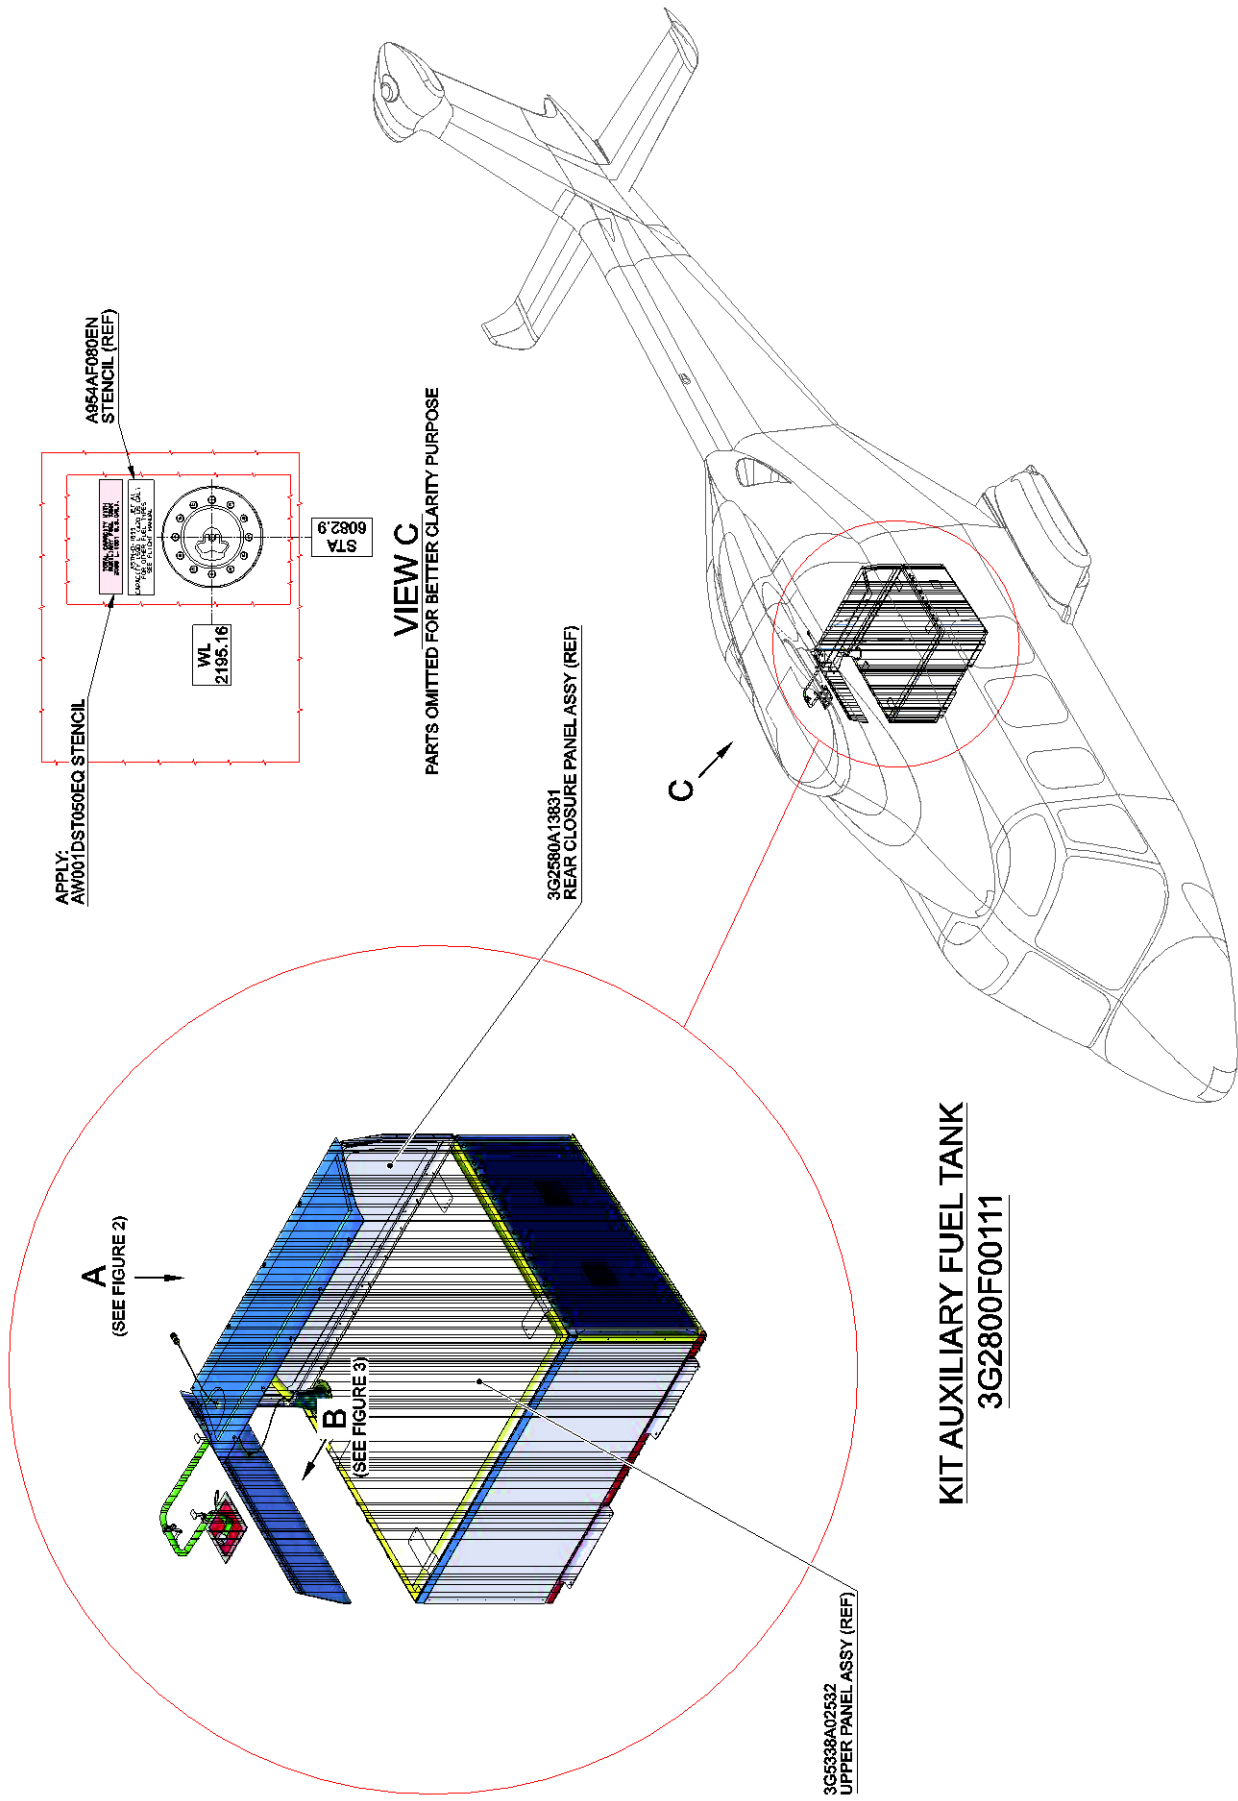

Figure 1
- 4.22 With reference to Figure 1, install the upper panel assy P/N 3G5338A02532 by means of existing fixing hardware previously removed.
- 4.24 With reference to Figure 1, install the rear closure panel assy P/N 3G2580A13831 by means of existing angle assemblies and hardware.
- 4.31 In accordance to AMP DM 39-A-11-22-00-00A-010A-A and with reference to Figure 1 View C, apply the stencil P/N AW001DST050EQ just above the existing stencil on the RH side of the helicopter.